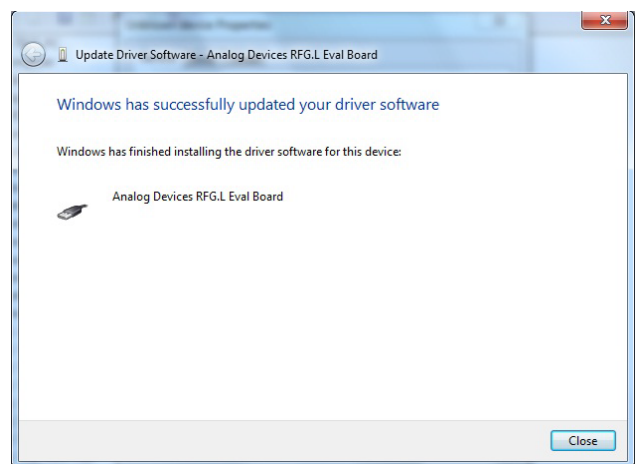

Figure 7. Successful Install
7. If the install was successful, the message box in Figure 7 appears.